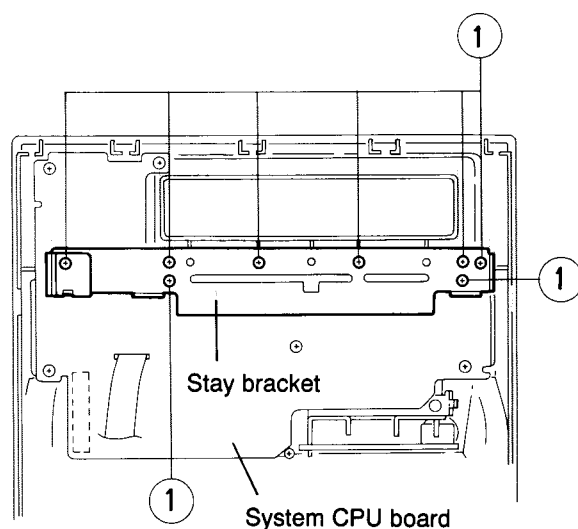

Fig. 5-21
6. Remove the eight screws ① fastening the stay bracket inside the front panel assembly. (See Fig. 5-21)